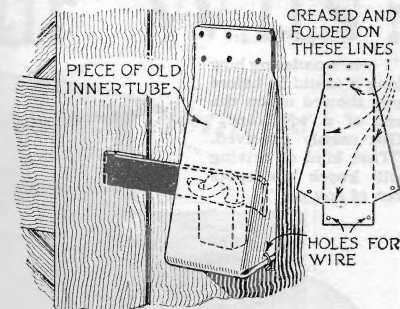

Fig. 2. This padlock cover will keep snow or sleet from jamming the padlock
**A**NYONE who has tried to unlock the padlock on the garage door after a freezing rainstorm, when the whole mechanism of the lock is frozen solid, will appreciate the simple method shown in Fig. 2 for keeping water and snow out of the padlock. An old section of inner tube can be cut in the shape indicated and tacked so that it covers the padlock. Note that the padlock is protected from the bottom by the folded and wired flap.